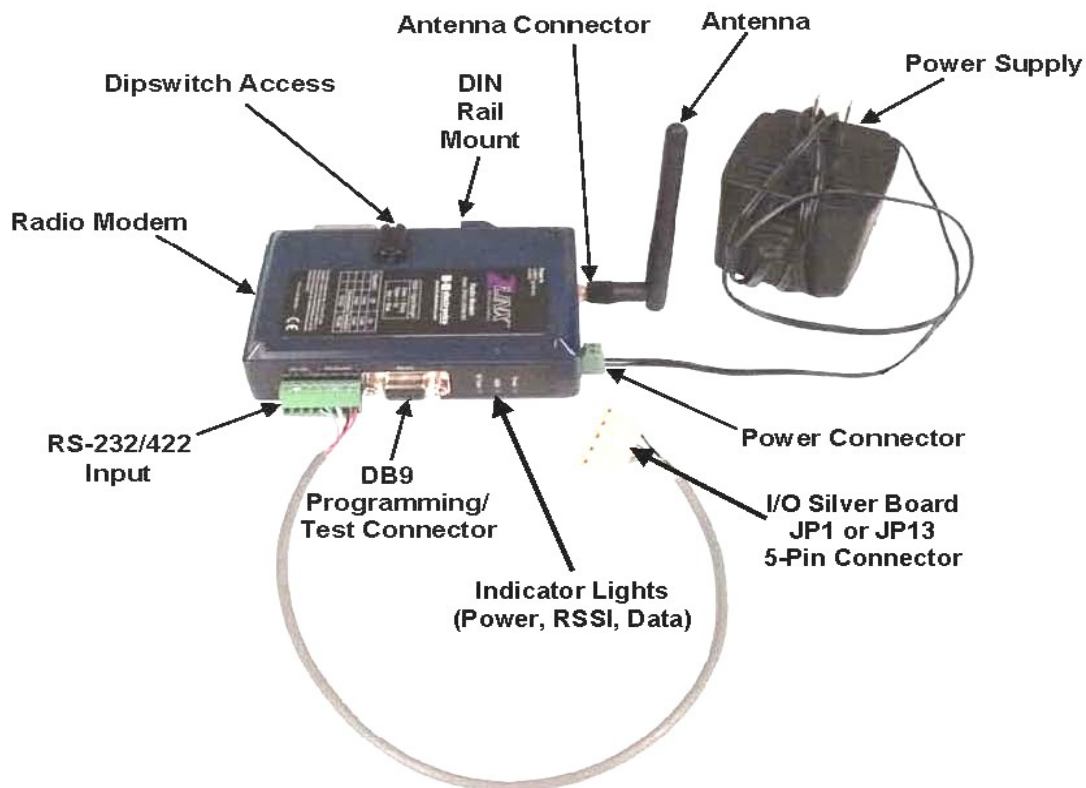

Figure 1. Zlinx Radio Mode
A maximum of twelve RS-232/422 devices may be configured for wireless communications with this equipment. The maximum range advertised by the manufacturer is 300 feet indoors and one mile outdoors. The original equipment used for this application was the B&B Electronics ZP24D-250RM-SR Zlinx Radio Modem (see Figure 1). This model is not weather resistant. It has to be installed inside a weatherproof enclosure such as the FMU. B&B Electronics later developed the ZXT24RM (see Figure 2), a weather resistant radio modem called the Zlinx Xtreme. It is encased in a weatherproof enclosure. Where the physical appearance differs from the standard Zlinx Radio Modem, they both are programmed with the same software.
1. (Zlinx) A straight-through serial cable must be connected between a serial port on your PC, and the radio modem DB9 Programming/Test Connector (Figure 1). If your PC does not have a 9-pin serial connector, a USB/serial adapter cable must be used.
2. (Zlinx) On the sending unit, a straight-through serial cable must be connected between a serial port on your PC, and the radio modem DB9 Programming/Test Connector (Figure 1). If your PC does not have a serial connector, a USB/serial adapter cable must be used.